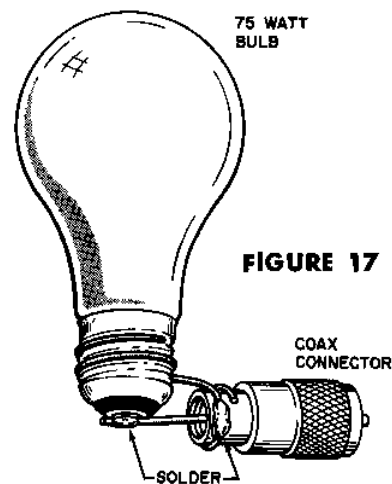

FIGURE 17
1. (✓) Construct a dummy load as shown in Figure 17. Use a 75 watt bulb, #16 bare wire and a coaxial connector (PL-259 or equivalent).